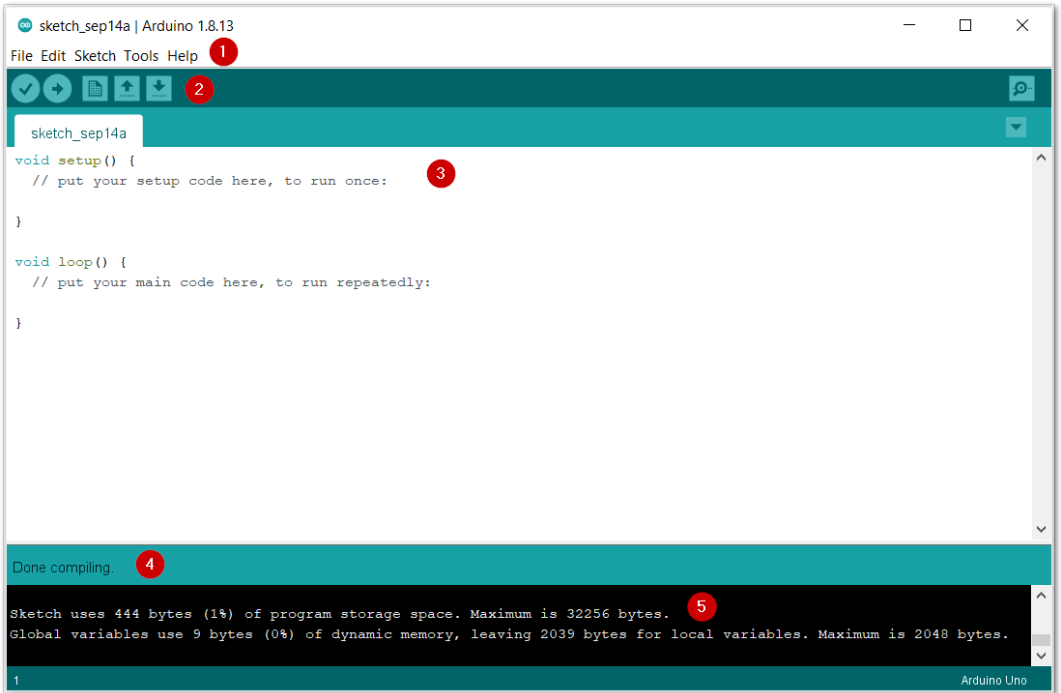

Figure 238: Arduino IDE
Figure 238 shows the five (5) parts of Arduino IDE.